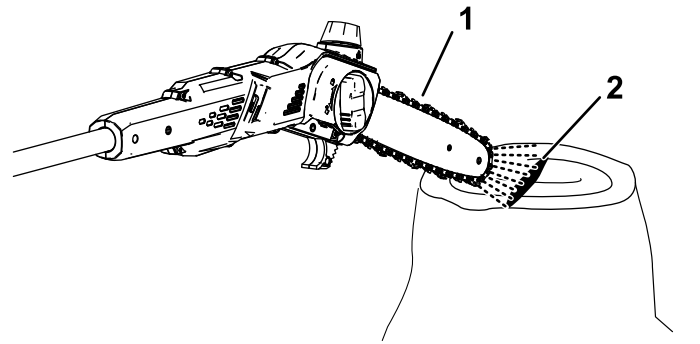

Figure 17
2. To ensure that oil is flowing to the chain, point the nose of the pole saw a few inches from a surface (e.g. paper, cardboard, a stump) and run the pole saw; you should be able to see a light spray of oil on the surface (Figure 17).